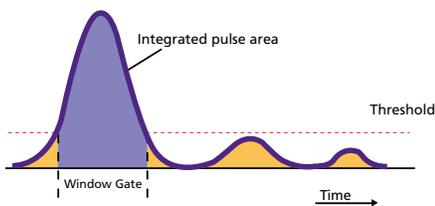
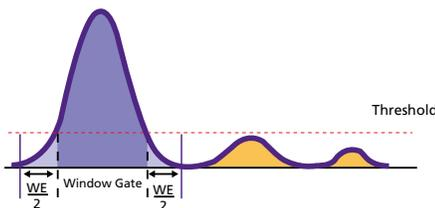

Figure 2. Window gate and pulse integration.
Figure 3. Visual representation of window extension.
In a BD digital system, the detector output is continuously digitized, whether a pulse is present or not. The threshold defines the signal level at which the system begins to measure a pulse within the continuous data stream. The window gate (WG) is the time interval during which any given signal is greater than the threshold (Figure 2), and the system samples the input signal to calculate the area of a pulse (shaded in blue). Any signals that do not cross the threshold are ignored and are not processed (shaded in orange). Once a signal exceeds the threshold, data is recorded until the signal falls to 75% of the initial threshold level.
As shown in Figure 2, the generated WG will not span the entire pulse, since the pulse actually begins before the WG opens (threshold) and ends after it closes. To ensure that the pulse is completely integrated, additional time is added before and after the WG (Figure 3).
The time added to each end of the WG is called the window extension (WE). Half of the WE time (WE/2) is added before the WG and half afterward (shaded in light blue). For example, on the BD FACSCanto II system, the WE defaults to a value of 7, with 3.5  $\mu$ s added before the WG and 3.5  $\mu$ s afterward. The total time span for integrating pulse area is WG + WE (Figure 3) (shaded in blue and light blue). When the WE is set to 0, the pulse width of the processed signal is equivalent to the WG. If the WE is too short, pulses might not be fully integrated.